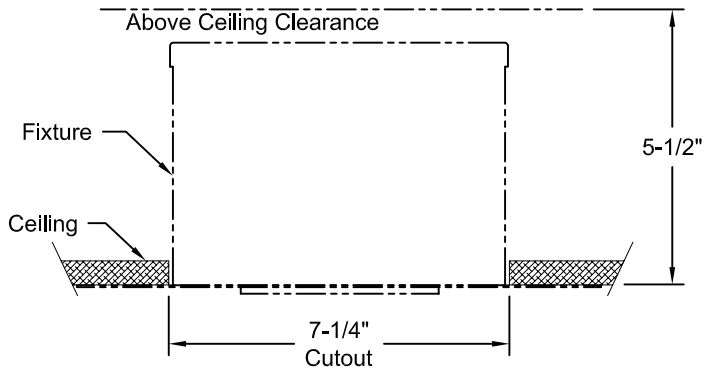

Figure 1
1. Check for Above Ceiling Clearance of 5-1/2". See Fig. 1.
2. Make 7-1/4" diameter Cutout in Ceiling. See Fig. 1.
3. Insert Fixture into Ceiling Cutout (See Fig. 1), rotating to orient Square Aperture to desired position relative to adjacent wall(s), other fixtures, aperture alignments, etc.
4. OPTIONAL: Retain orientation by installing two (2) or three (3) drywall/zip screws into outer perimeter of Perforated Mudding Frame.